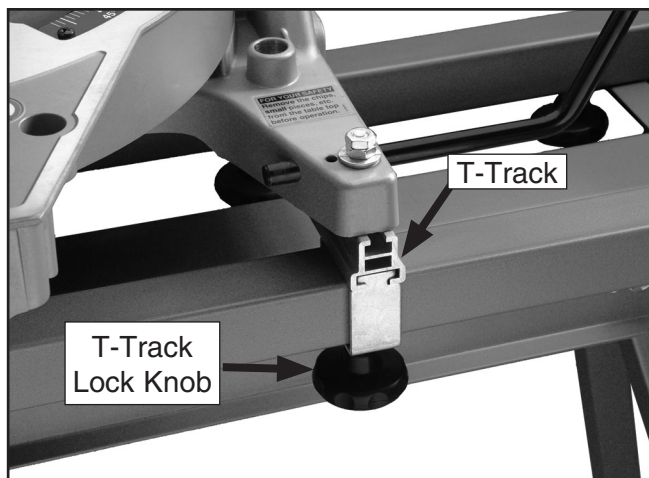

Figure 5. Mounting the miter saw.
9. Place the miter saw over the bolts and secure it with washers and hex nuts (see **Figure 5**).